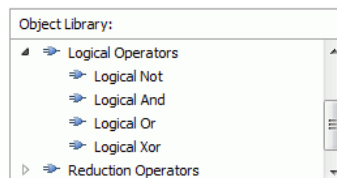

Figure 20. Select the Logical Or operator from the Object Library window and drag this into the editing window.
- We now need to add the necessary logical operators to our circuit. We will need an OR gate as well as three edge level detectors. To access the OR gate, click on the plus sign next to Logical Operators in the Object Library and select Logical Or, as in Figure 20. Then drag and drop the operator into the editing window.